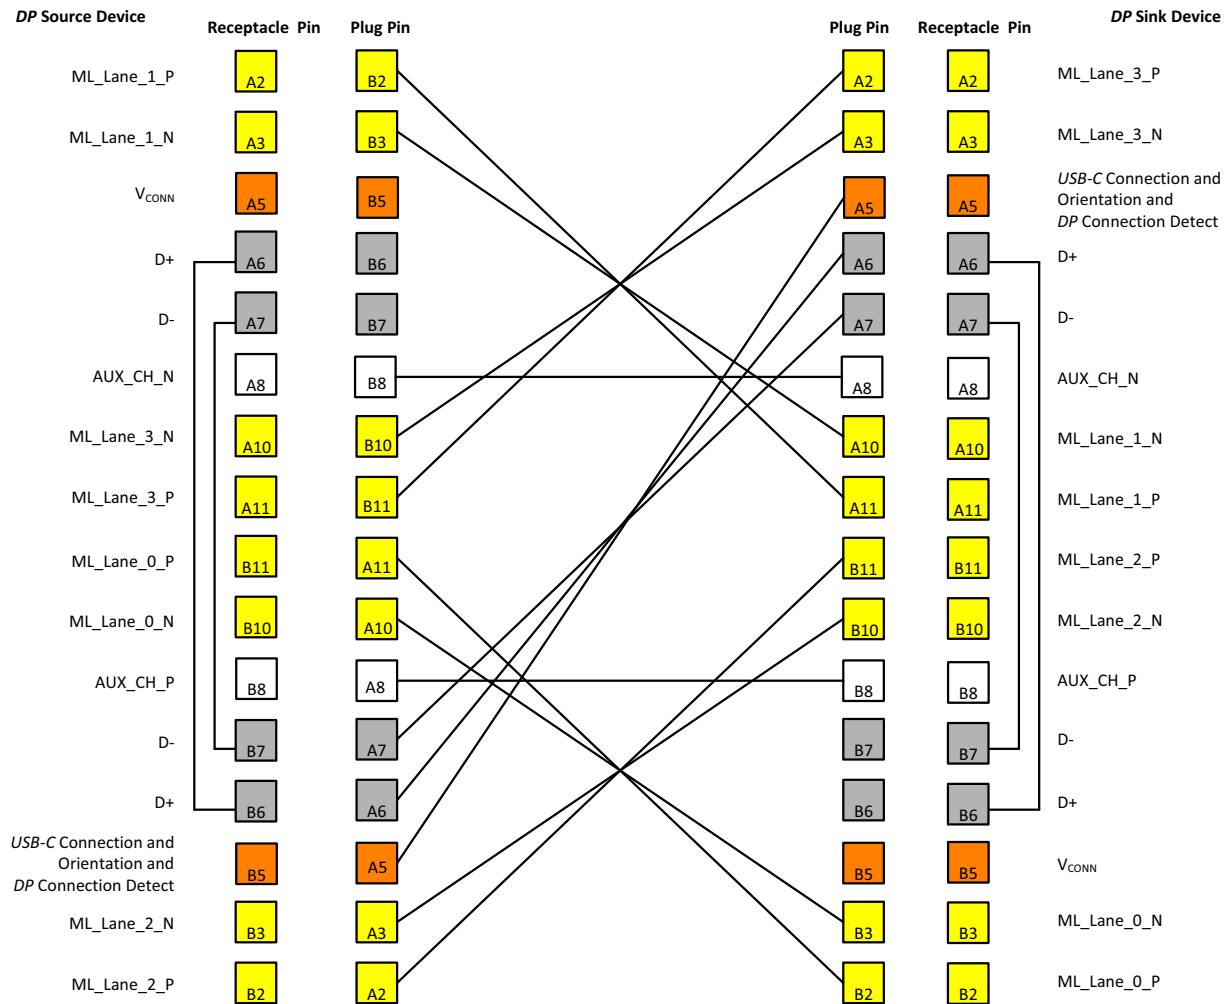

Figure 4-3: Scenario 1 Cable Wiring – DP Source Device Flipped Plug Orientation
- Figure 4-3 illustrates when the DP Source device plug is flipped and the DP Sink device plug is inserted in normal orientation